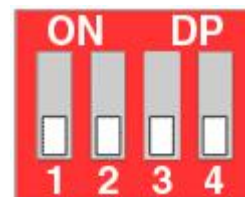

Fig. 5 Dip Switches in 0000 Positions
- Set up delay-off function: The 4 dip switches on the back of BRT-414 timer switch are used to set the delay-off time to 8 settings based on different combinations. Fig. 5 shows all the dip switches are in “off” positions. Each combination corresponds to a delay off setting.